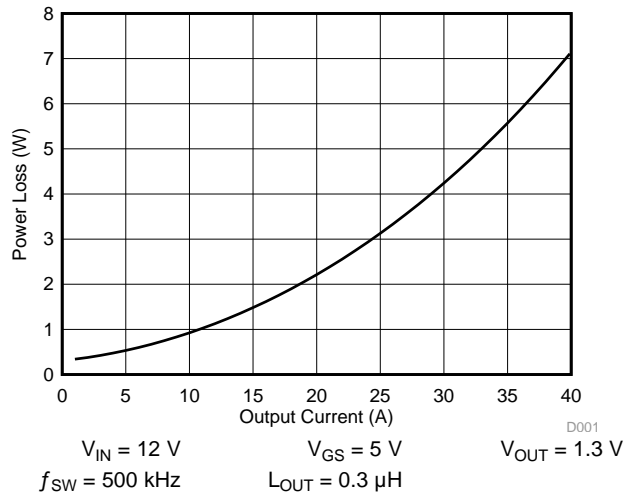

Figure 1. Power Loss vs Output Current
MOSFET centric parameters such as $R_{DS(ON)}$ and Q_{gd} are needed to estimate the loss generated by the devices. In an effort to simplify the design process for engineers, Texas Instruments has provided measured power loss performance curves. Figure 1 plots the power loss of the CSD86356Q5D as a function of load current. This curve is measured by configuring and running the CSD86356Q5D as it would be in the final application (see Figure 30). The measured power loss is the CSD86356Q5D loss and consists of both input conversion loss and gate drive loss. Equation 1 is used to generate the power loss curve.
The power loss curve in Figure 1 is measured at the maximum recommended junction temperatures of 125°C under isothermal test conditions.
- Power loss at 35 A = 5.57 W (Figure 1)